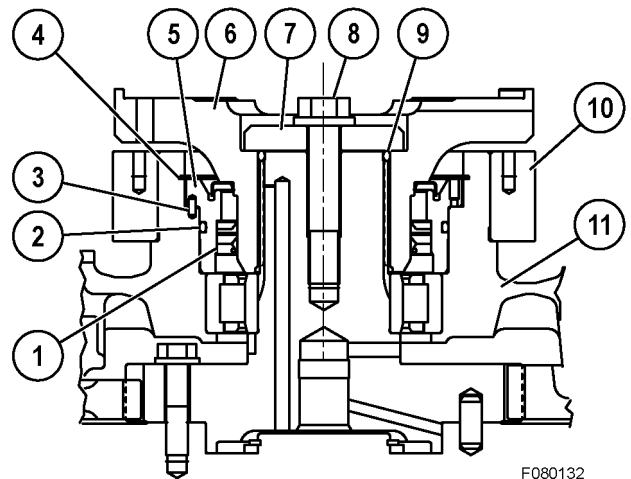

FIGURE 8-72. INPUT SHAFT DETAIL
80. Install the pump drive gear assembly into the housing. Install cap screws (13) and the washers and tighten to **110 ± 12 N·m (81 ± 9 lb ft)**.
81. Install a new O-ring (6) onto cover (4). Install the cover. (Applicable to the RH pump drive, only.)
83. If previously removed, install dowel pin (3, Figure 8-72).
84. Apply sealant p/n 790-129-9070 to the outer diameter of oil seal (1). Install the seal in retainer (5). Apply grease p/n 790-129-9080 to the seal lip and retainer bore in the front housing.
85. Coat a new O-ring (2) with petroleum jelly and install it onto retainer (5).
86. Position retainer (5) over the front housing. Align the hole for dowel pin (3) and install the retainer in the housing. Install snap ring (4).
87. Heat and install the collar (10).
88. Coat a new O-ring (9) with petroleum jelly and install it onto input flange (6) and holder (7). Place the assembly into position. Apply thread lock (p/n 09940-00030) to the threads of cap screw (8). Install the cap screw and the washer. Tighten the cap screw to **696 ± 34 N·m (514 ± 25 lb ft)**.